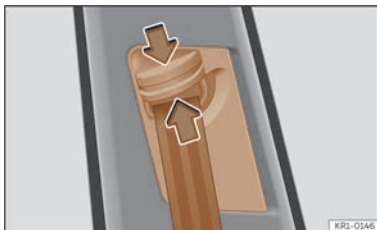

Fig. 27 Near the front seats: seat belt height regulator.
- Keep the guide device pressed down in the direction of the arrow >>> **Fig. 27**.